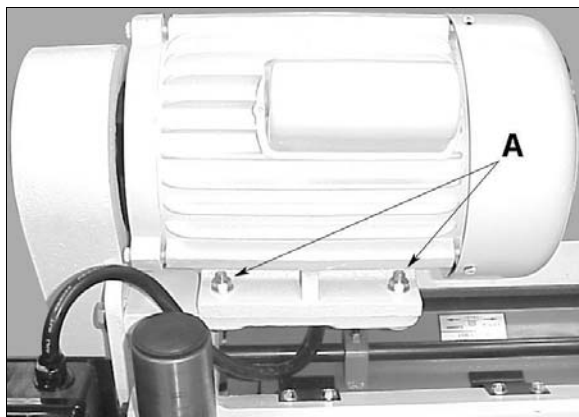

Figure 10
2. Loosen four bolts (12mm) on the motor mounting base plate (Fig. 10), which will allow the motor to move from side-to-side.